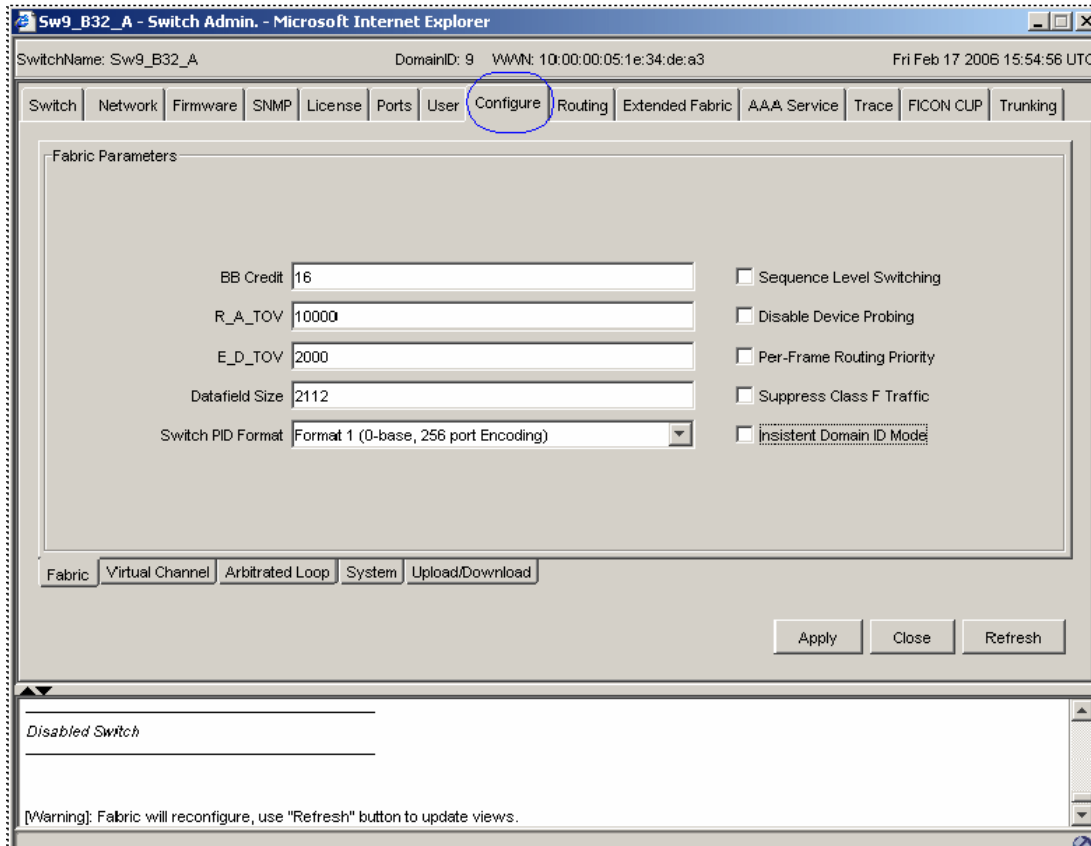

Figure 5-25 Verifying Switch PID Format window
- Go to the Configure tab (Figure 5-25) and ensure that the Switch PID Format field is set to Format 1. Switch PID is the default setting for all Brocade products and is recommended for all new SAN installs. All switches in the SAN fabric must use the same Switch PID format. If the SAN32B is being connected to an existing SAN Fabric that is not using Switch PID 1, then see “Building the Brocade SAN fabric” on page 101”.